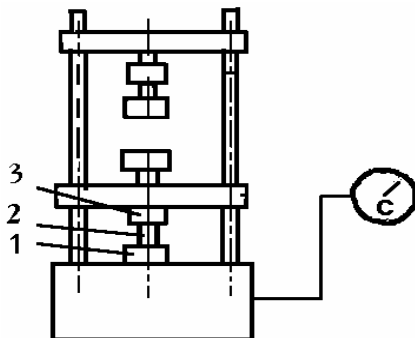

Fig.2
2. The distances f_y, f_u and f_B (fig.2) are measured and input in *Table 1*;